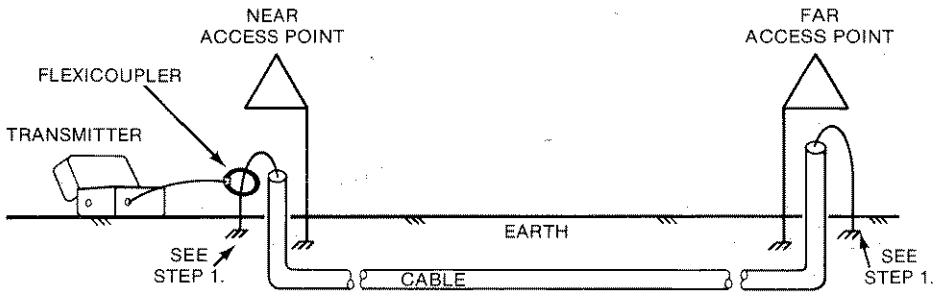

Figure 2-1.
3. Plug the jack end of the flexicoupler cord into the RED/BLACK TEST CORD jack receptacle on the transmitter (see Figure 2-1).